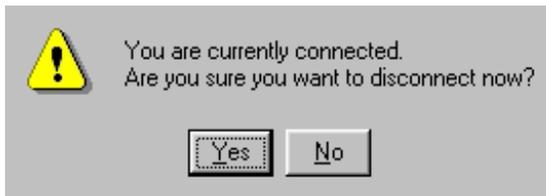

Figure 2-22: Disconnect Now dialog box
11. Choose **Exit** from the **File** menu to close the HyperTerminal application. A message box displays, as shown in Figure 2-22.